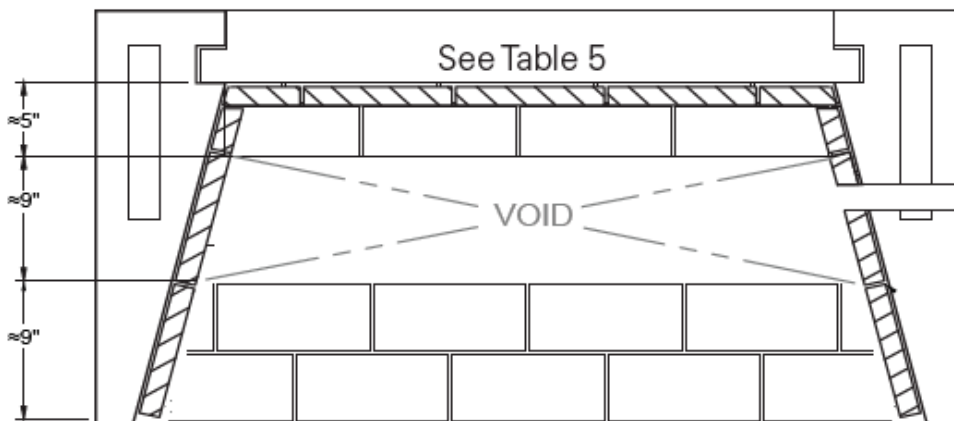

FIGURE 41
- 3) The burner cavity must have a height of 2-1/2", a depth of 8-3/4", and the length shall extend the entire length of firebox. (**Table 5; Figure 41 & 42**)